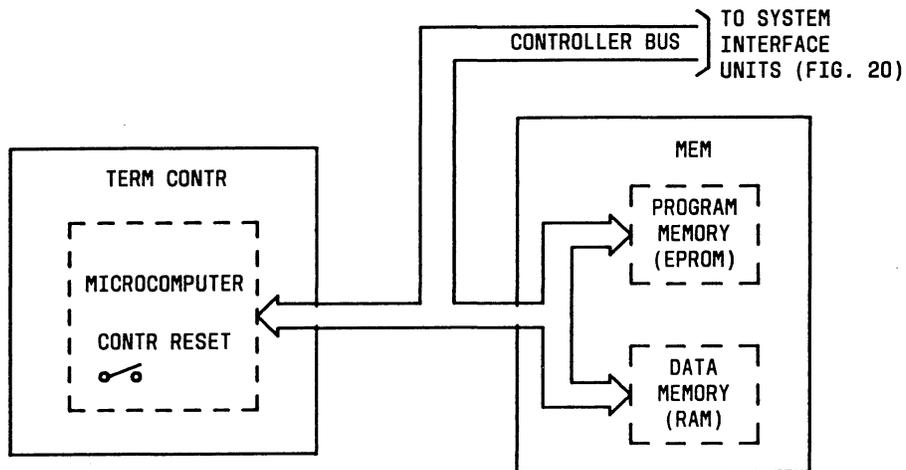

Fig. 19—Central Processing Units
- Figure 19—Central Processing Units